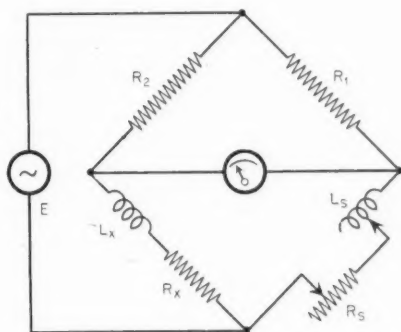
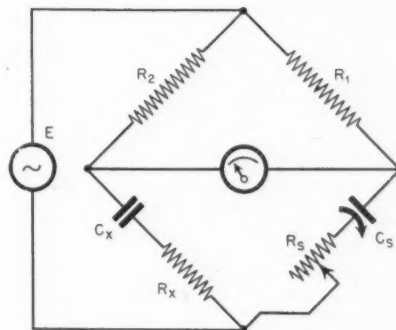
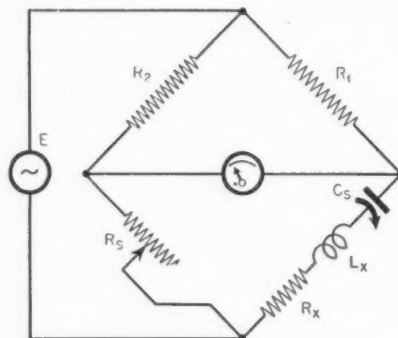

Fig. 2. Inductance comparison bridge circuit.
Fig. 3. Capacity comparison bridge circuit.
Fig. 5. Circuit of resonance type bridge.
**INDUCTANCE COMPARISON BRIDGE:** The unknown is assumed to be an impedance having both inductance and resistance, such as a coil. The circuit is shown in Fig. 2. The condition for balance is:
**CAPACITY COMPARISON BRIDGE:** This bridge is essentially similar to the inductance comparison bridge of Fig. 2. Its circuit is shown in Fig. 3. For balance we have:
The bridge of Fig 3 yields the effec-
**RESONANCE BRIDGES:** The bridge circuits of Figs. 2, 3, and 4 compare unknown inductances with standard inductances, or unknown capacities with standard capacities. There are bridges which compare unknown inductances (sometimes mutual inductance) with standard capacities, or vice versa. In such bridges, frequency is a fundamental variable and must be known accurately. This type of bridge is generally known as a resonance bridge. The circuits rely on opposing phase angles in the unknown and standard arms to effect balance. A simple type is shown in Fig. 5.